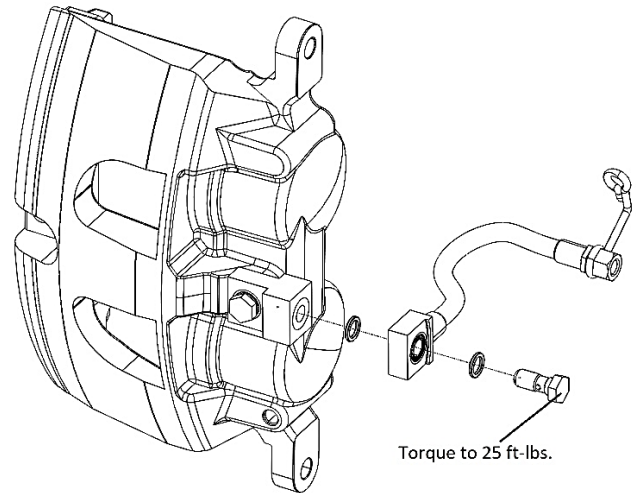

Figure 5: Installation of Driver Side OEM Brake Line to Relocation Block
5. Install the Driver side OEM brake banjo mounting with the supplied crush washer and banjo bolt to the banjo block. Orient as shown in Figure 5. Note: Banjo fitting may be rotated to provide optimal clearance between flexible hose and surrounding parts